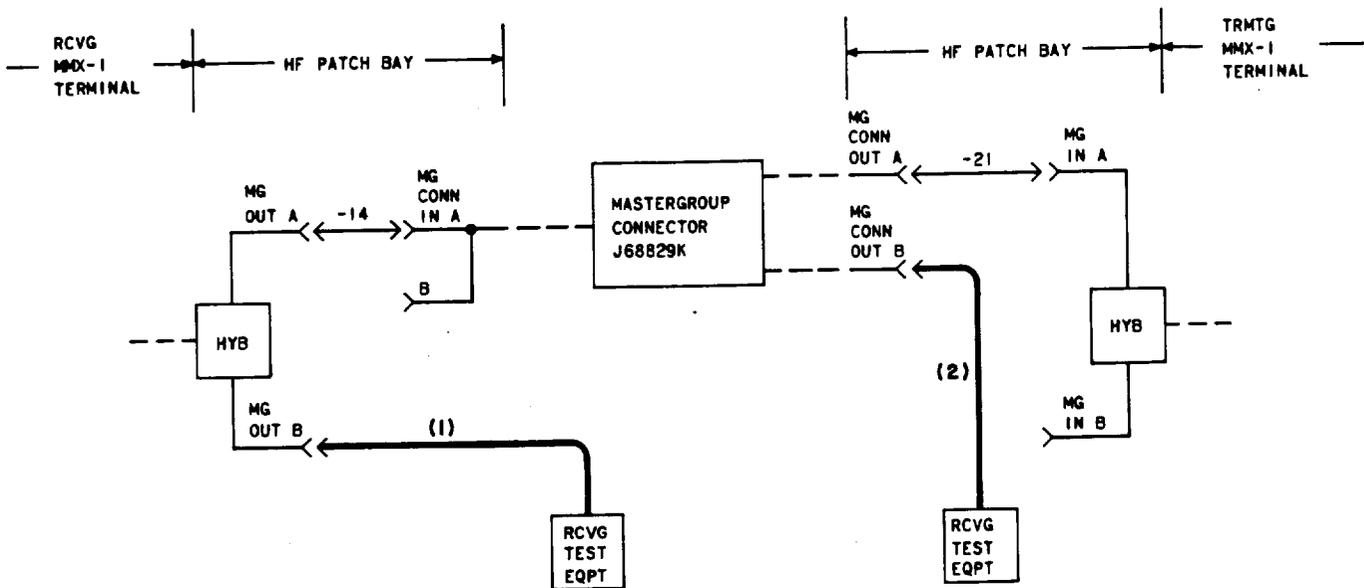

Fig. 1—Mastergroup Connector Test Connections
- 3 Connect the receiving test equipment to this MG OUT B jack [patch (1), Fig. 1].
- 7 Connect the receiving test equipment to this MG CONN OUT B jack [patch (2), Fig. 1].